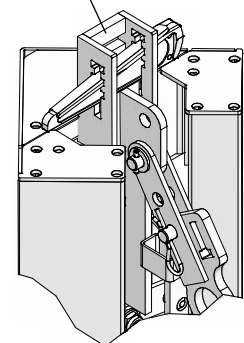

Fig. 31.6 Pouring position
1. Insert the wedge integrated into the stripping corner into the connecting device (Position C, Fig. 31.6).
8. Reinsert the wedge into the connecting device (Fig. 31.6).